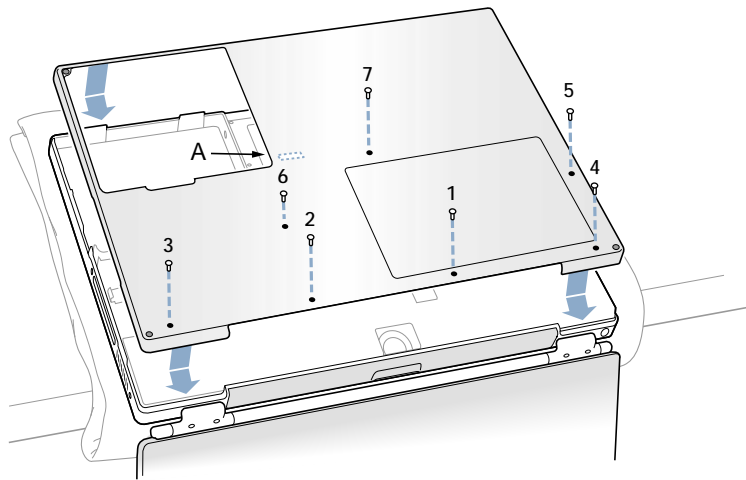

Figure 12
2. Replace the seven screws in the order shown in the illustration (**Figure 12**).